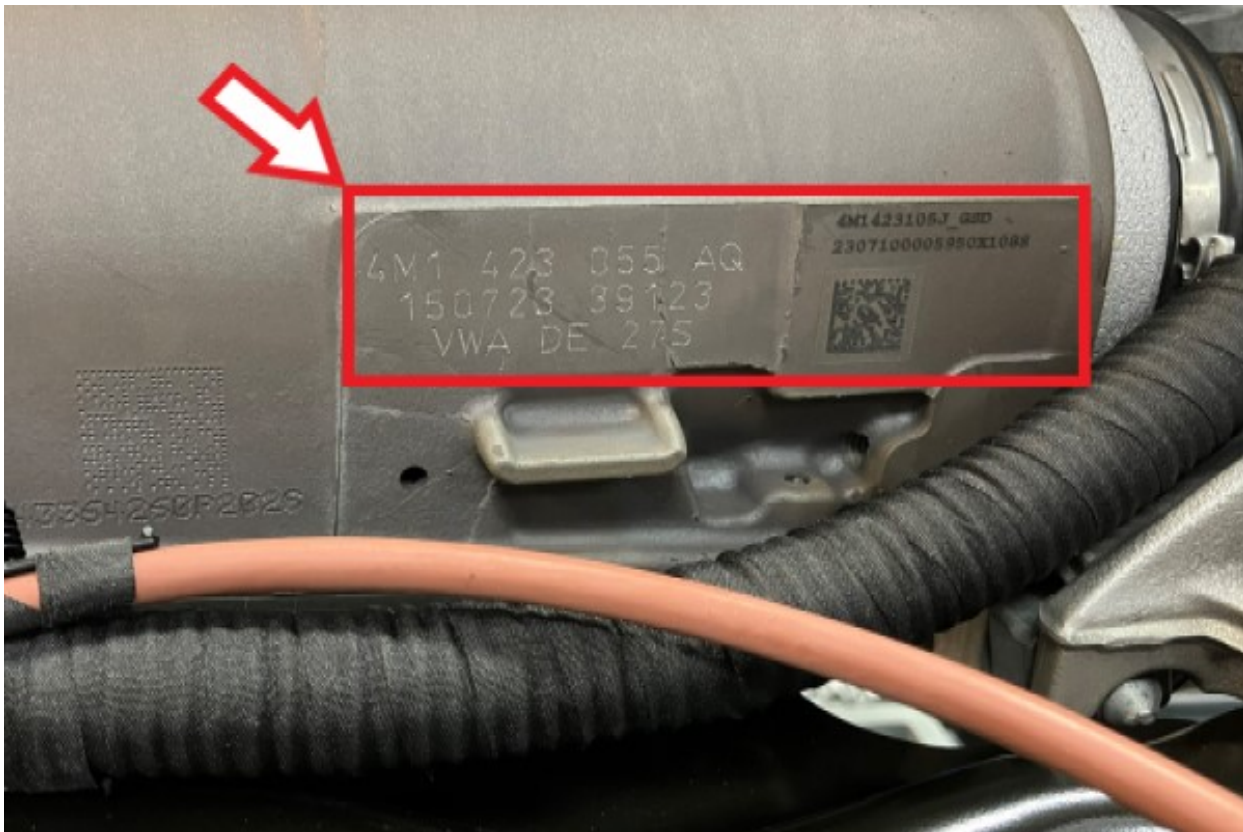

Figure 1
- Clear photograph of the steering rack serial numbers (Figure 1)